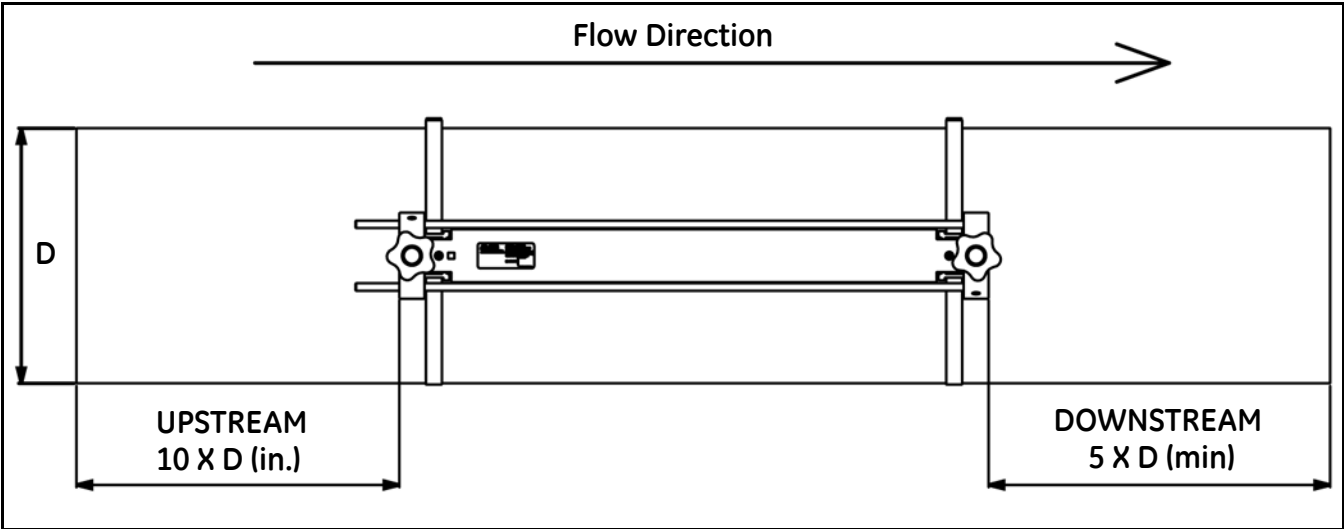

Figure 7: AT600 Transducer Location
- a. Choose location with enough straight run; refer to Figure 7 on page 7.